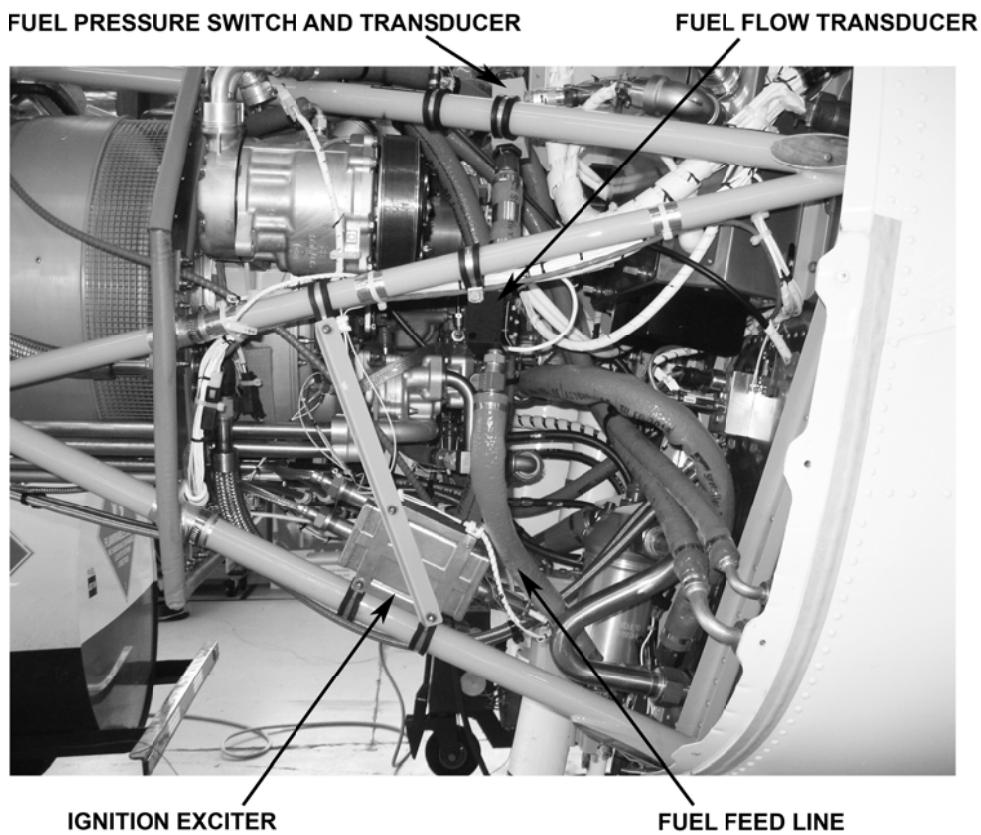

FIGURE 1 INSPECTION AREA – L.H.S OF POWERPLANT
NOTE: The procedures below are detailed specifically for aircraft with revised Fuel Line and Ignition Exciter installations to provision for installation of Air Conditioning and/or Standby Alternator as detailed in Figure 1 below.
For Aircraft fitted with the Fuel Feed Hose and/or Ignition Exciter located in a different location from that detailed in Figure 1, it is recommended that a survey of the Fuel Lines and adjacent Electrical Wiring are carried out for signs of chafing.
- 2) If the Engine Fuel Feed line and Ignition Exciter are installed in the configuration shown in Figure 1 below, then carry out inspection detailed below.